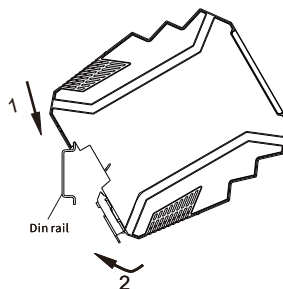

Fig.2: Mounting method
**Mounting Method on the DIN rail (see Fig.2):**
- (1) Hook the upper end of the instrument's mounting bracket onto the standard DIN rail.
- (2) Push the instrument towards the DIN rail to fully fit the mounting bracket onto the DIN rail.
- (3) Press the installation locking clip to secure it to the DIN rail.